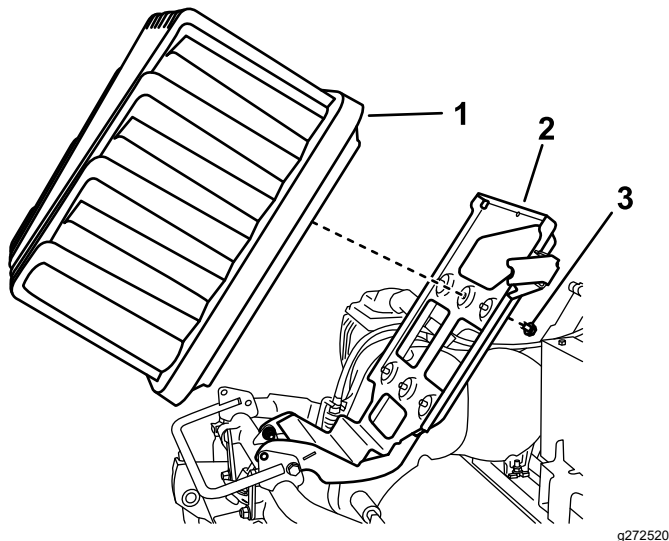

Figure 6
6. Remove the battery and the battery platform from the machine (Figure 6).
7. Remove the bolts and washers securing the battery to the platform; dispose of or recycle the battery in accordance with local, state, and federal regulations (Figure 6).